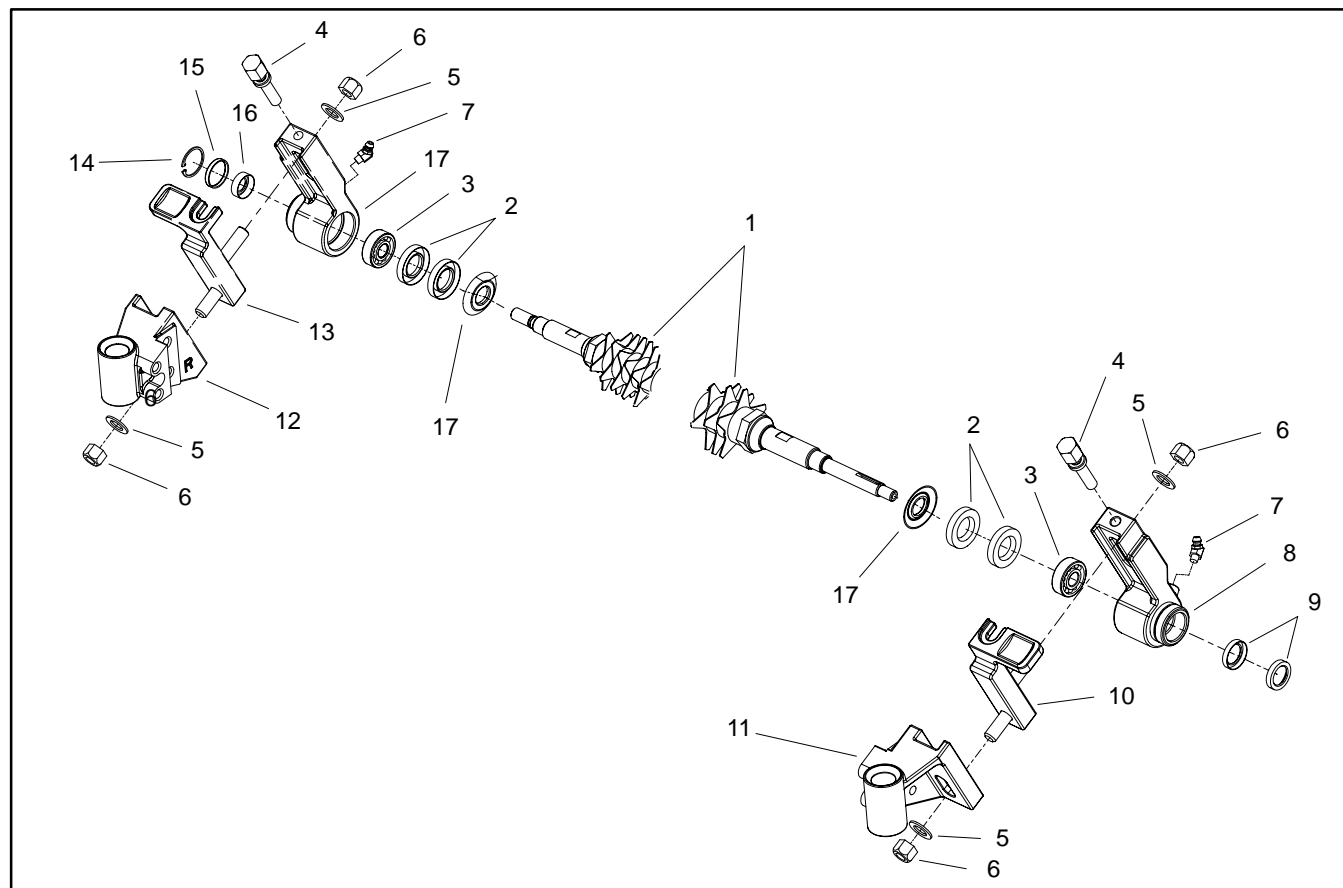

Figure 15
Note: The groomer reel drive is located on the opposite side of the cutting unit from the cutting reel hydraulic motor. Figure 15 shows components used when the groomer reel drive is on the left side of the cutting unit.
Disassembly (Fig. 15)
2. Disassemble groomer height of cut assembly using Figure 15 as a guide.
Assembly (Fig. 15)
2. Assemble groomer height of cut assembly using Figure 15 as a guide.